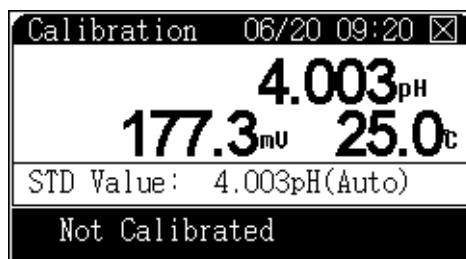

Figure 18 Calibration
- 3 The display for pH calibration is shown in Figure 18 on page 37. The upper area shows the current pH, potential and temperature value (in this example the slope is set to 100.00%). The bottom area shows the current calibration data (if any).